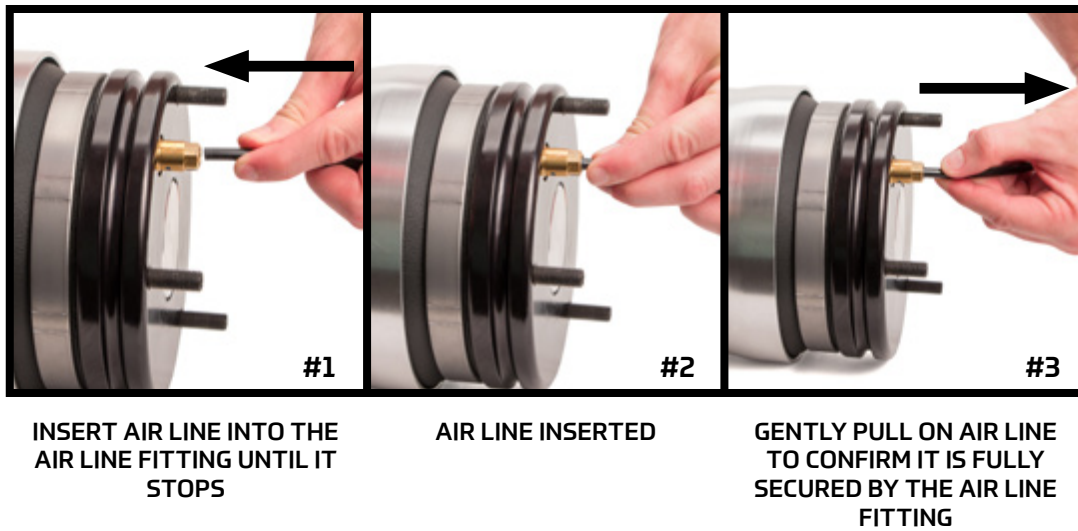

FIGURE 43
13. Connect the air line. Press the line in until it seats in the fitting firmly. Use the figure below as an example. (Figure 43)